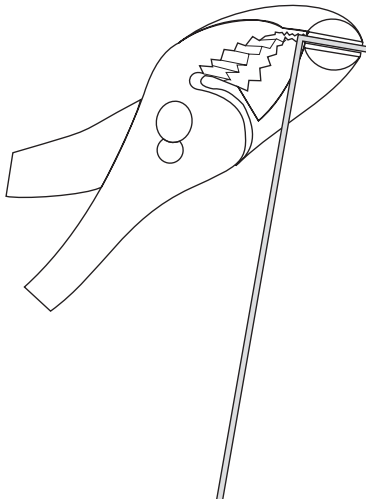

Figure 1
► **Note:** You will need bend the wires as illustrated in Figure 1. (The direction of the bend is not critical.)